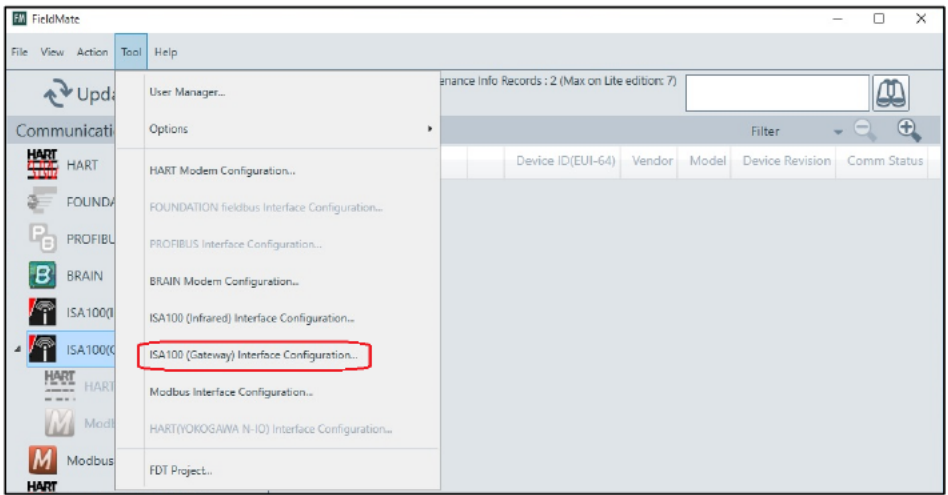

Figure 5-6 Segment viewer (ISA100 (Gateway) Interface Configuration menu)
- ④ Select Main menu ⇒ Tool ⇒ "ISA100 (Gateway) Interface Configuration...". (Figure 5-6)